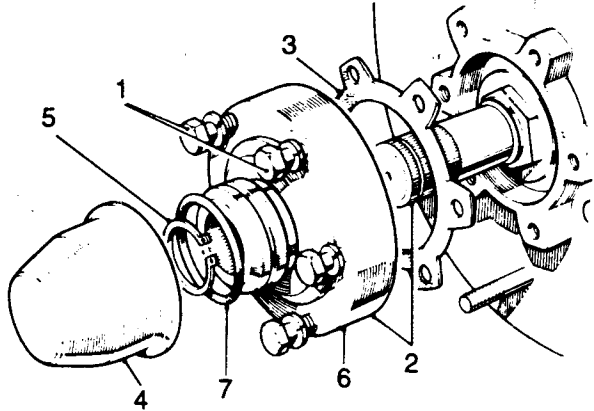

Fig J1.4
- (1) Refer to Fig J1.4. Replace the O-ring seal (7).
- (2) Fit the driving member (6) to the shaft.
- (3) Refit the circlip (5).
- (4) Replace the hub cap (4).
- (5) Fit a new joint washer (3).
- (6) Replace the driving member and axle shaft complete (2).
- (7) Tighten the hub driving member fixings (1).